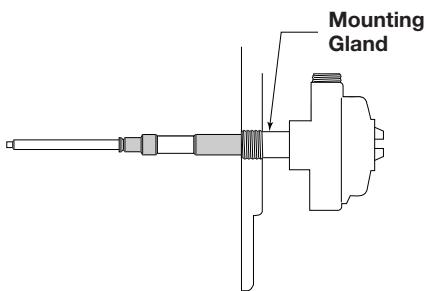

Figure 2
Unit will signal at probe level. Refer to Figures 2 and 3.
Caution: Do NOT horizontally mount the unit in a nozzle deeper than 3" (75 mm). Refer to Figures 2 and 3. The medium may build up in the nozzle and cause false actuation.
2. Tighten securely, being certain that the wrench is applied ONLY to the mounting gland. Refer to Figures 2 through 4.